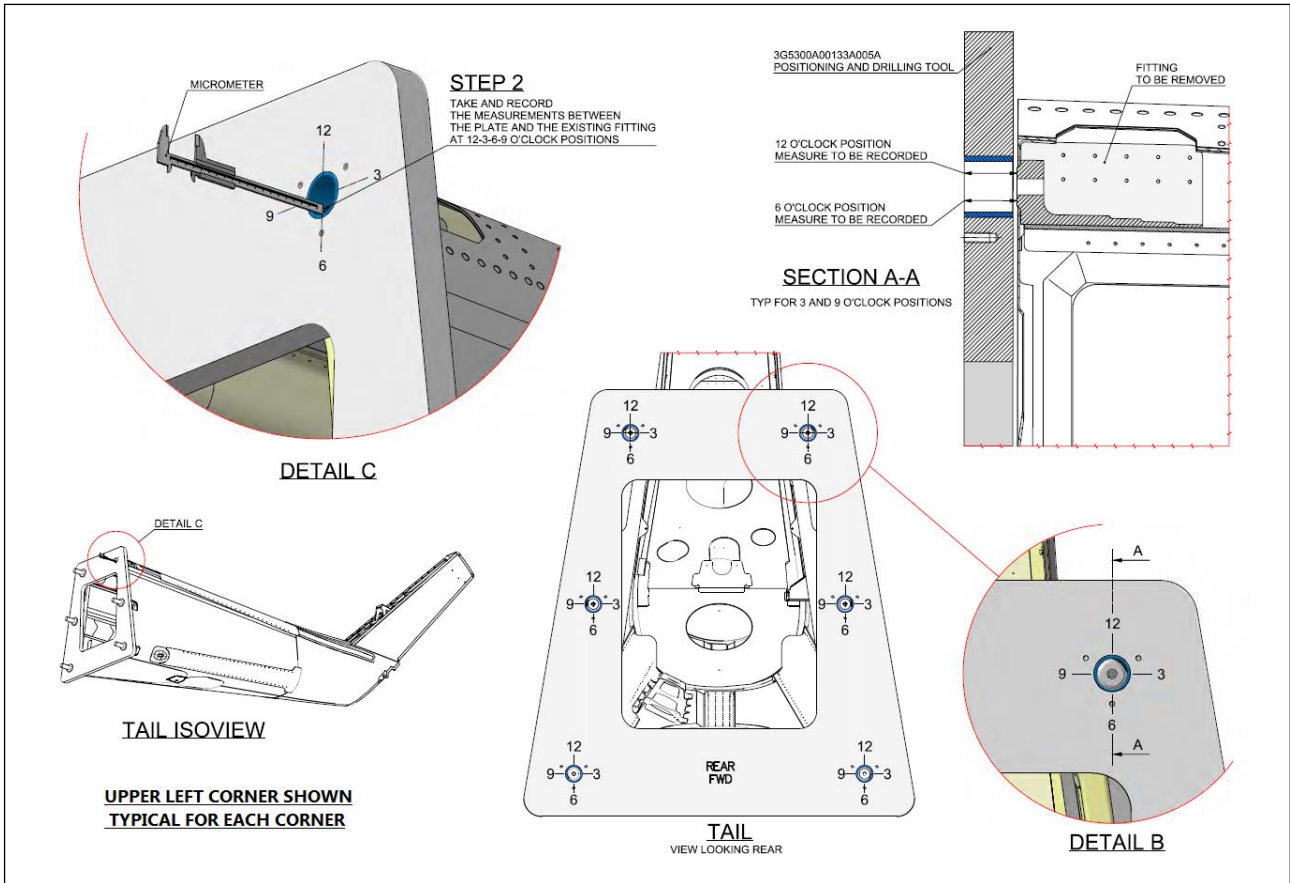

Figure 9
- 5.2. With reference to Figures 9 and 10, by means of depth mike, measure, annotate and store the distance between the drilling tool kit (Support Equipment Ref. 1) and the front surface of the six tail fittings.